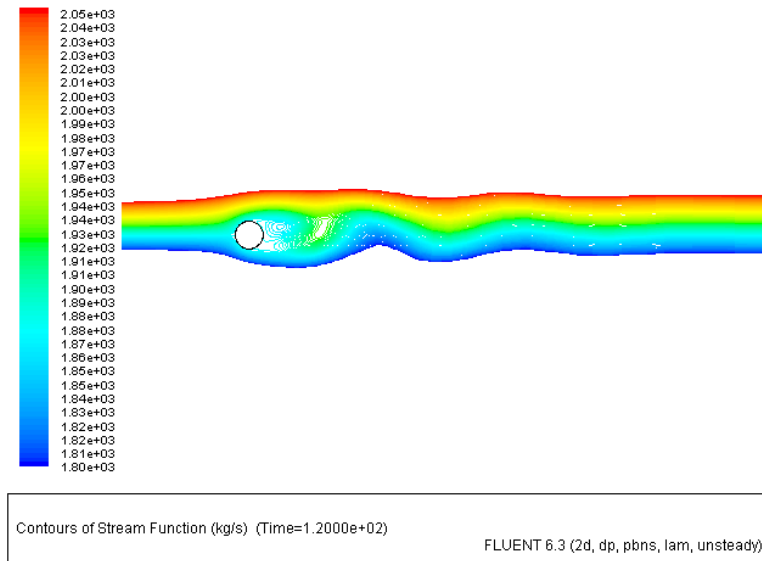

Figure 6.9: Contours of Stream Function
3. The instantaneous streamline can be displayed to see the incipient and shed vortex clearly (Figure 6.9).
- (e) Click Display (Figure 6.9).